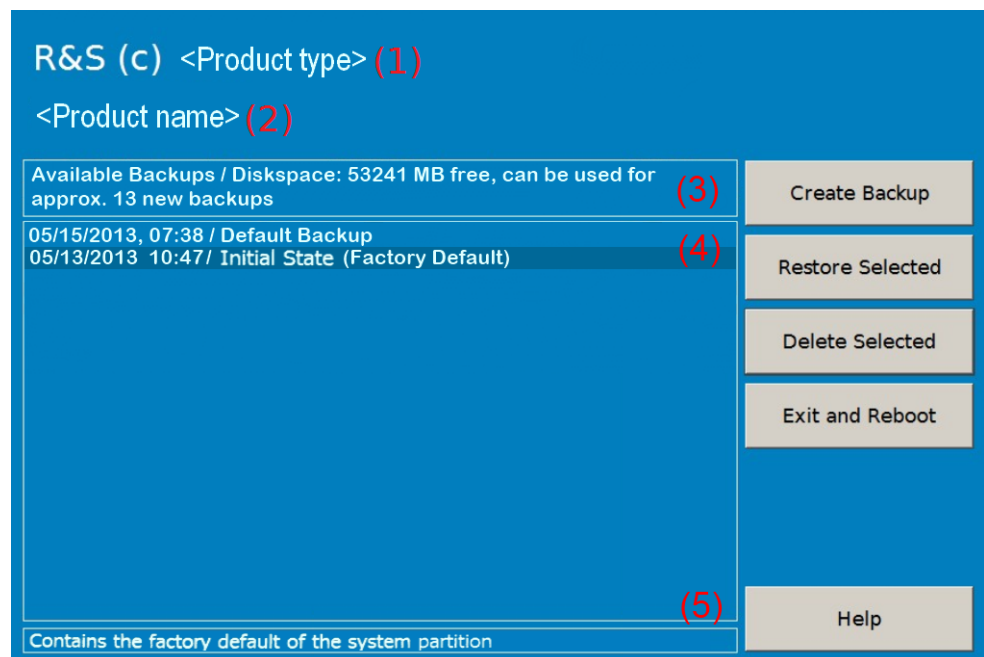

Figure 8-1: Backup and restore main dialog (example)
1. In the main dialog (see Figure 8-1), select "Create Backup".
1. In the main dialog (see Figure 8-1), select the backup you want to restore.
1. In the main dialog (see Figure 8-1), select the backup you want to delete.